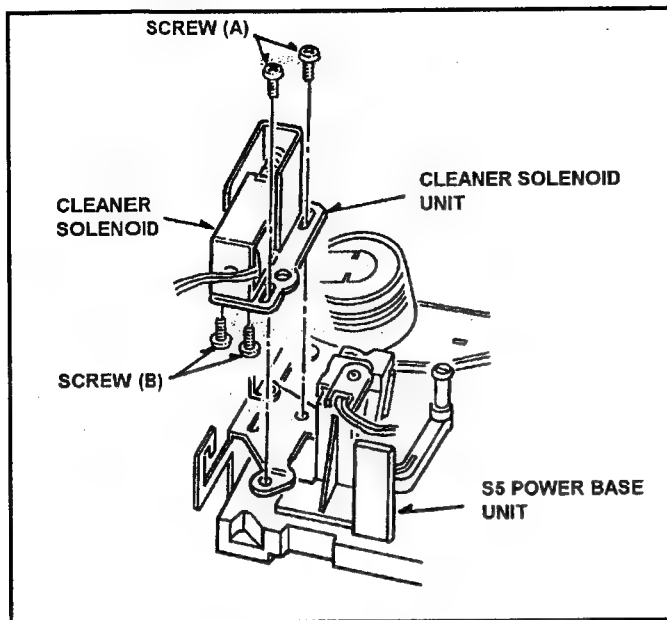

Fig. 6-15-1 Removal of Cleaner Solenoid
5. Unscrew the 2 screws (A) and remove the Cleaner Solenoid Unit as shown in Figure 6-15-1.
6. Unscrew the 2 screws (B) and remove the Cleaner Solenoid as shown in Figure 6-15-1.